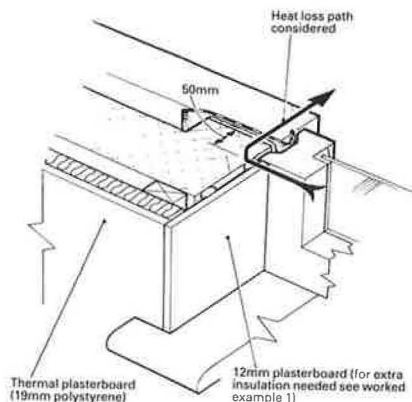

Figure 2
- using Table 1, sum the resistances of the construction lying in the heat loss path, Figures 2 and 3 (ignoring surface resistances). If the sum of resistances is less than 0.65 (ie there is a 'resistance deficit') additional insulation will be needed to improve the U-value to 1.2. Table 2 gives appropriate thicknesses.
Use Table 1 to sum the resistances of the materials in the heat loss path shown in Figure 2.